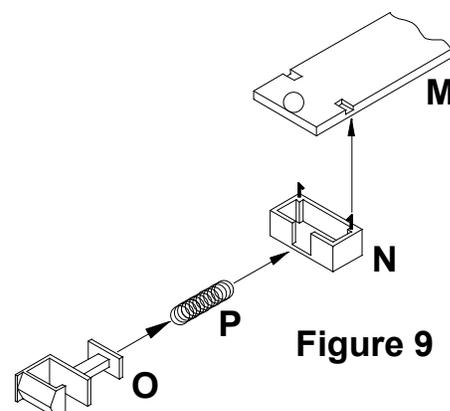

Figure 9
24. Clip the Coupler Pocket to the underside of the coupler bar on the bogie (**Part M**), locating the hooks at the recess points (**Figure 9**).